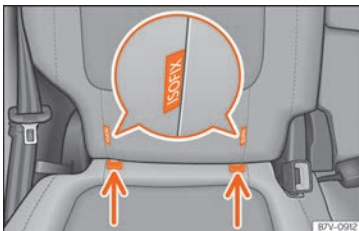

Fig. 39 Version 2: identification of the anchor points for the child seat on the vehicle seat
- Press the child seat onto the retaining rings » » » **Fig. 39** in the direction of the arrow. The child seat must be safely engaged and click audibly into place.
- Place the child seat on the seat cushion and attach the retaining strap hooks to the retaining rings » » » **Fig. 39**.